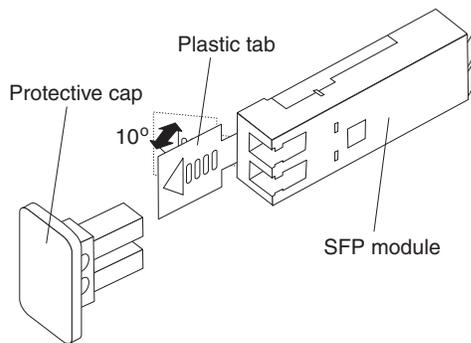

Figure 80. Unlocking the SFP module latch - plastic variety
- For SFP modules that contain plastic tabs, unlock the SFP module latch by pulling the plastic tab outward 10°, as shown in Figure 80.